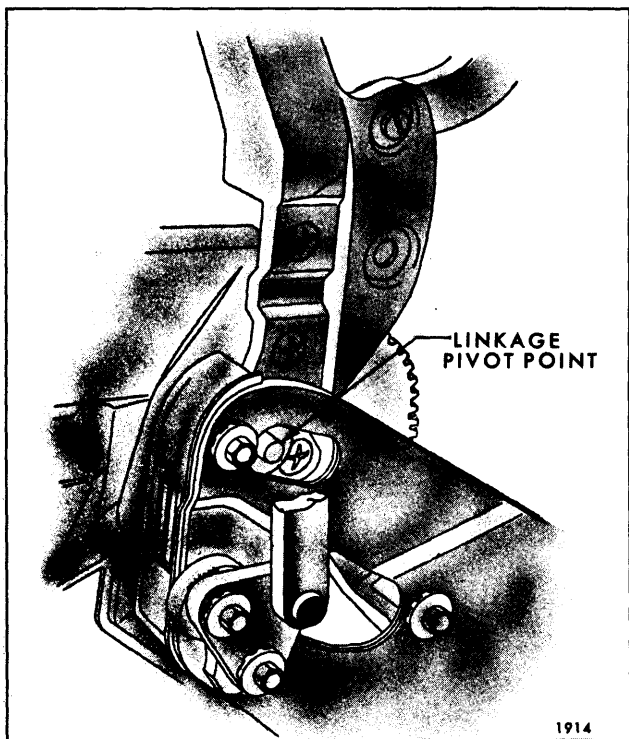

Fig. 13-88—Folding Top Linkage Pivot Point "Z" Styles
- d. Rotate male hinge assembly forward or rearward around linkage pivot point, as required; then tighten attaching bolts, (Fig. 13-88) and check alignment.